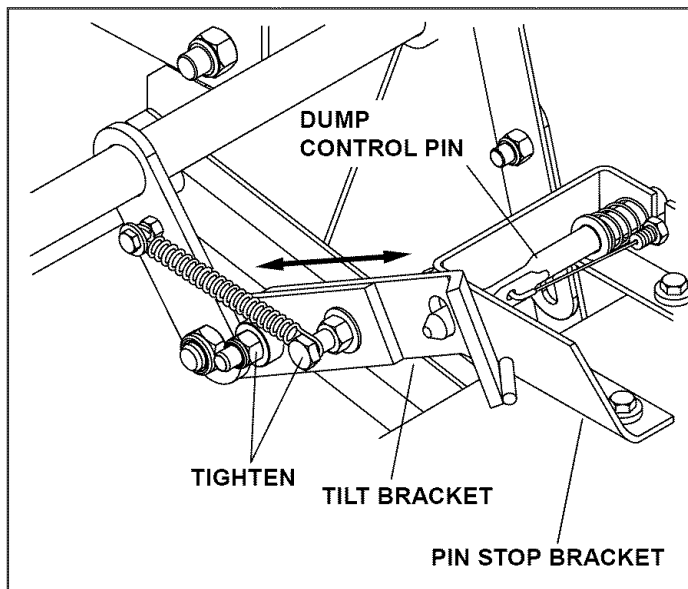

FIGURE 22
- Make sure the two bolts in the tilt bracket are loose enough to turn by hand. Align the tilt bracket so that the dump control pin snaps into the hole in the tilt bracket. The tapered end of the pin should extend clear through the tilt bracket. **Tighten the two bolts and nuts** in the tilt bracket. See figure 22.